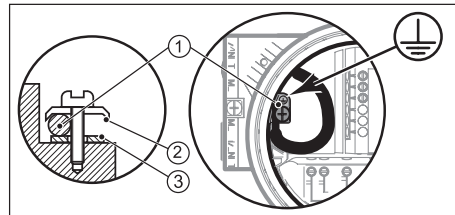

Fig. 4.2 Earth wire connection
- \* If required, mount earth wire (1) between top (2) and stainless steel washer (3) of earth wire connection (see figure 4.2).